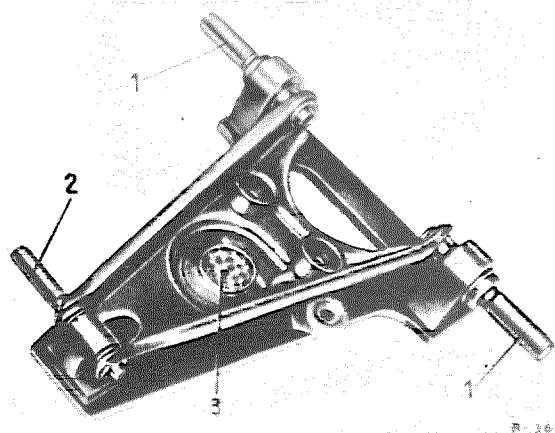

Fig. 33 — 5/6
12. Check the lower control arm with Alignment Gage 120 589 05 21 in the same way (Fig. 33 — 5/6).